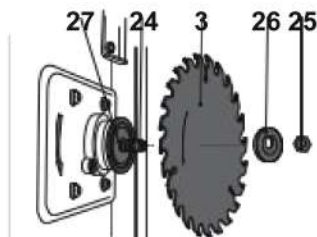

Fig. 27
> Lock the spindle (24) with the multi-function wrench (16) and loosen the clamping nut (25) by turning it counterclockwise with the wrench (17) (fig. 27).